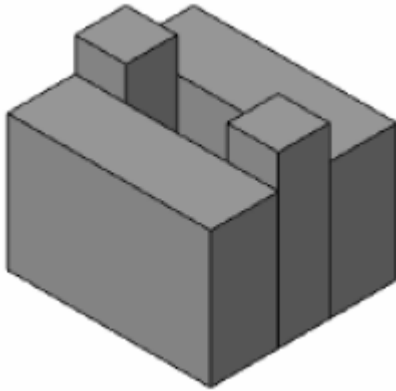

Figure 3—Assembled Mold
- 3.3 Assemble the molds with prepared concrete blocks and spacers using rubber bands. (See Figure 3.)